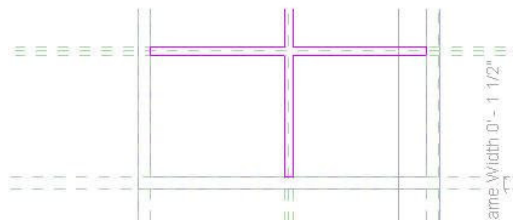

Figure 39. The muntin sketch.
7. Create the sketch shown in Figure 39. Make sure that all sketch lines are locked to a Reference Plane.